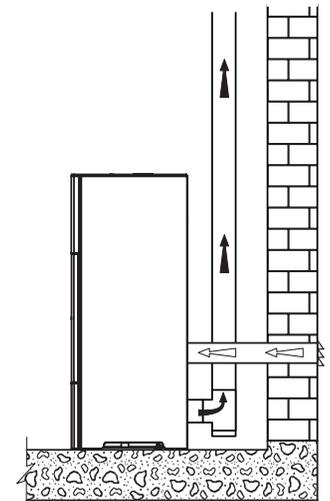

Fig. 5.6
- connect the stove’s combustible air inlet to the air intake with a suitable duct (fig. 5.6).